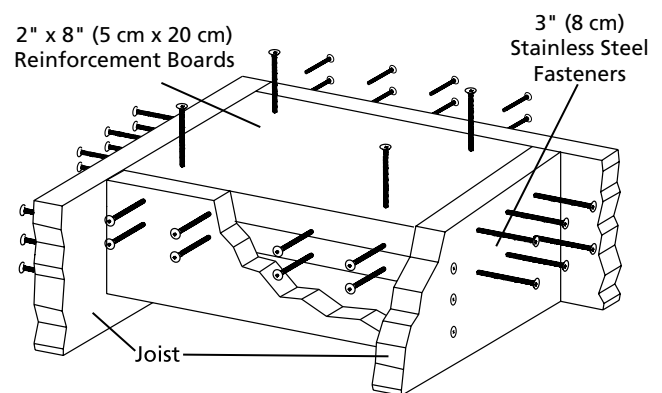
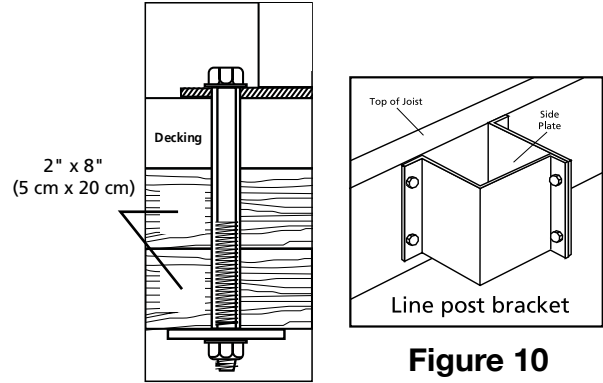

Figure 7
Figure 9
2. The thickness of the wood/composite deck and reinforcement boards underneath the deck should be a minimum of 4" (10 cm). (Two treated and structurally sound 2" x 8" (5 cm x 20 cm) lumber under the deck board, (Figure 9). Fasten the reinforcement boards with 3" (8 cm) stainless steel fasteners as shown (Figure 7).
11. Fasten the four bolts underneath the reinforcement boards with the 5/16" (8 mm) fender washer (included in kit) and 5/16" (8 mm) galvanized hex nuts (not included) (Figure 9).
2. Thickness of wood/composite deck and reinforcement boards underneath deck should be a minimum of 4" (10 cm). (Two treated 2" x 8" (5 cm x 20 cm) lumber under the deck board). Fasten reinforcement boards with 3" (8 cm) stainless steel fasteners as shown (Figure 7).